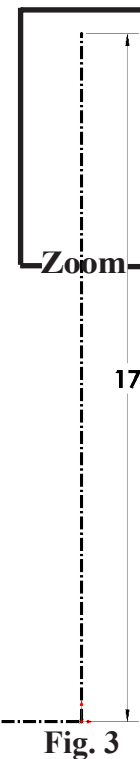
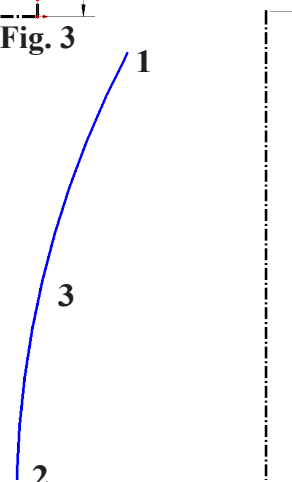

Fig. 3
Fig. 4
Step 1. Zoom in at **top of vertical centerline**, **Fig. 3**. To zoom, place the cursor over top of centerline and spin the wheel on mouse back. While spinning the wheel keep cursor on top of line.
Step 2. Click **3 Point Arc**  (S) in the **Arc flyout**  on the Sketch toolbar.
Step 3. Sketch an arc between the Position 1, Position 2 and Position 3 in **Fig. 4**. To sketch the arc, first click Position 1, then Position 2. Swing the arc out to Position 3 and click.